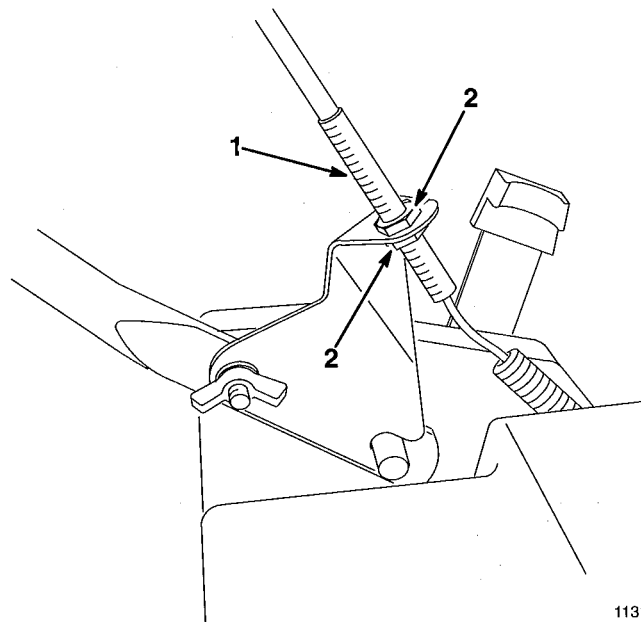

Figure 34
- Hold self-propelled bail 1 to 1 1/2 in. (25 to 38 mm) from handle (Fig. 34).